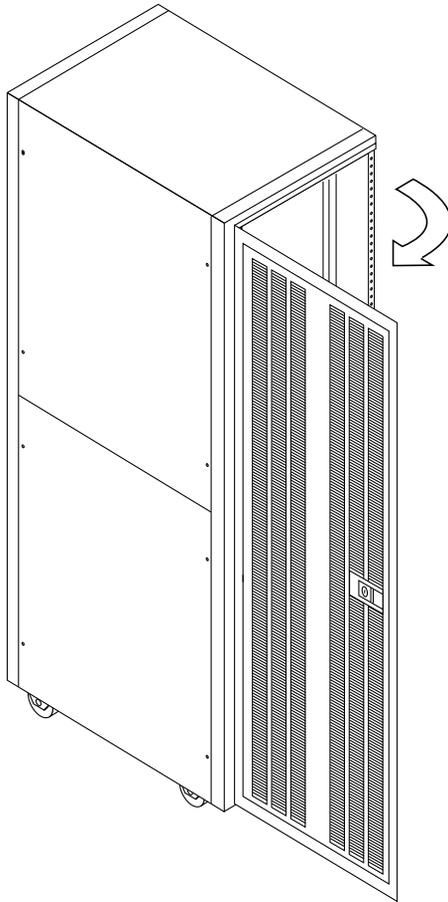

FIGURE 3-8 Opening the Back Door of the Rack
- 2. Open the back door of the rack (FIGURE 3-8).**
1. **Open the back door** (FIGURE 3-8 on page 3-10).